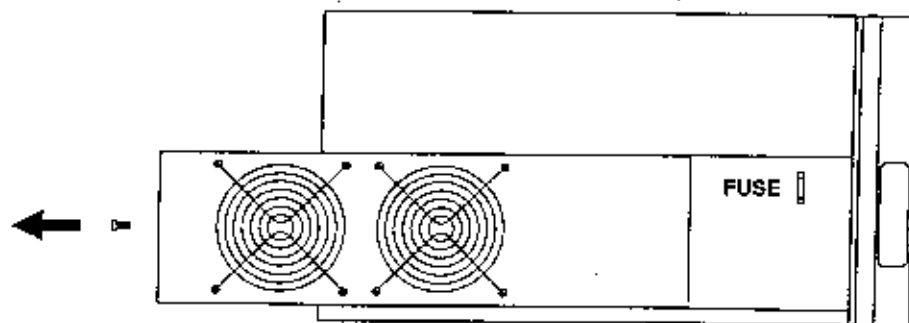

Fig. 4.3 Fuse Access Behind Left Side Panel.
3. Locate and replace the fuse with a 1 A 3AG slow-blow fuse ONLY. (See Figure 4.3)
This can be done by removing the philips screw which secures the side panel to the rear chassis and slide the panel toward the rear as shown in Figure 4.3 above. Gently blow air in a reverse direction through the filters to clear them.